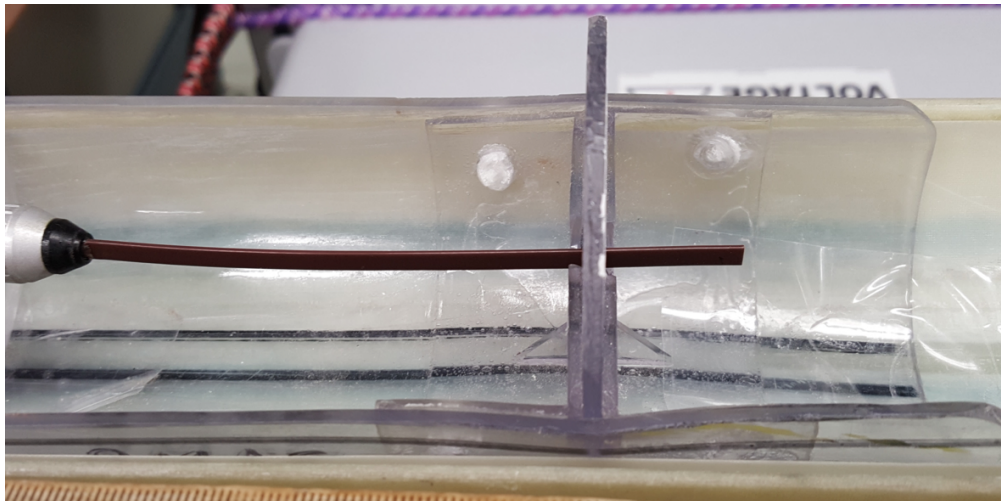

Figure 76 Hall probe in the Y axis orientation
16. Reposition the probe to read the Y coil output (**Figure 76**).